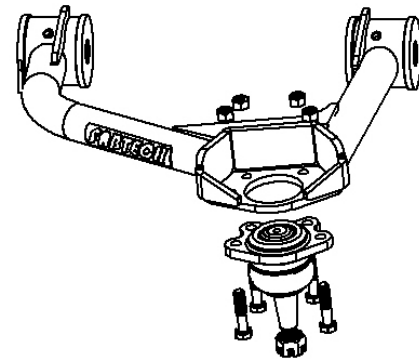

FIGURE 23 - STEP 20
20. Install FT20619 (Ball joint) onto the new upper control arm using the supplied 5/16"-18 x 1" bolts, washers and nuts from the hardware kit. Lube ball joint through zerk fittings. Torque to 29 ft-lbs. **SEE FIGURE 23**